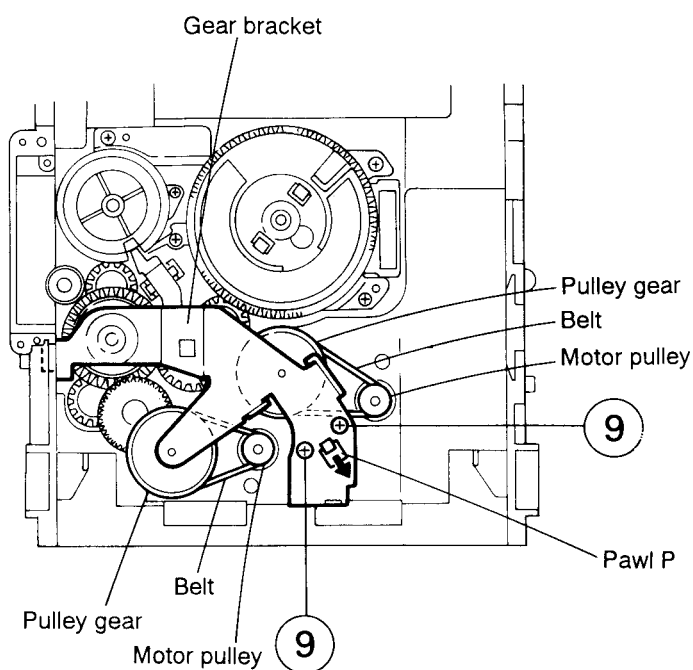

Fig. 5-48
(See Figs. 5-48~5-51)
1. Remove the two screws (9) retaining the gear bracket (See Fig. 5-48).
2. While pressing the pawl (P) fixing the gear bracket in the arrow direction, remove the gear bracket (See Fig. 5-48).